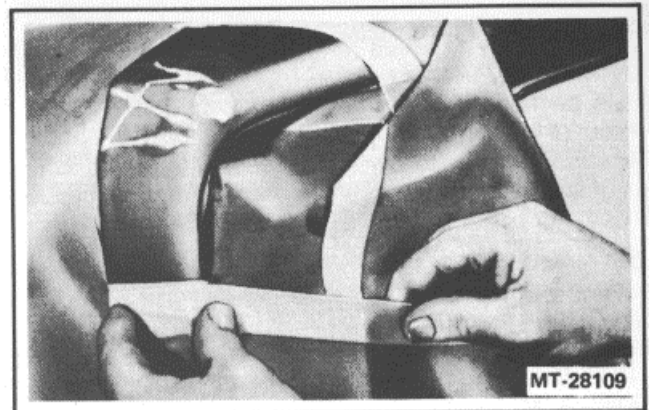

Figure 10. - Masking Undamaged Area
3. Mask off the undamaged surface, leaving a working area of approximately 5 inches surrounding the repair area (Figure 10).